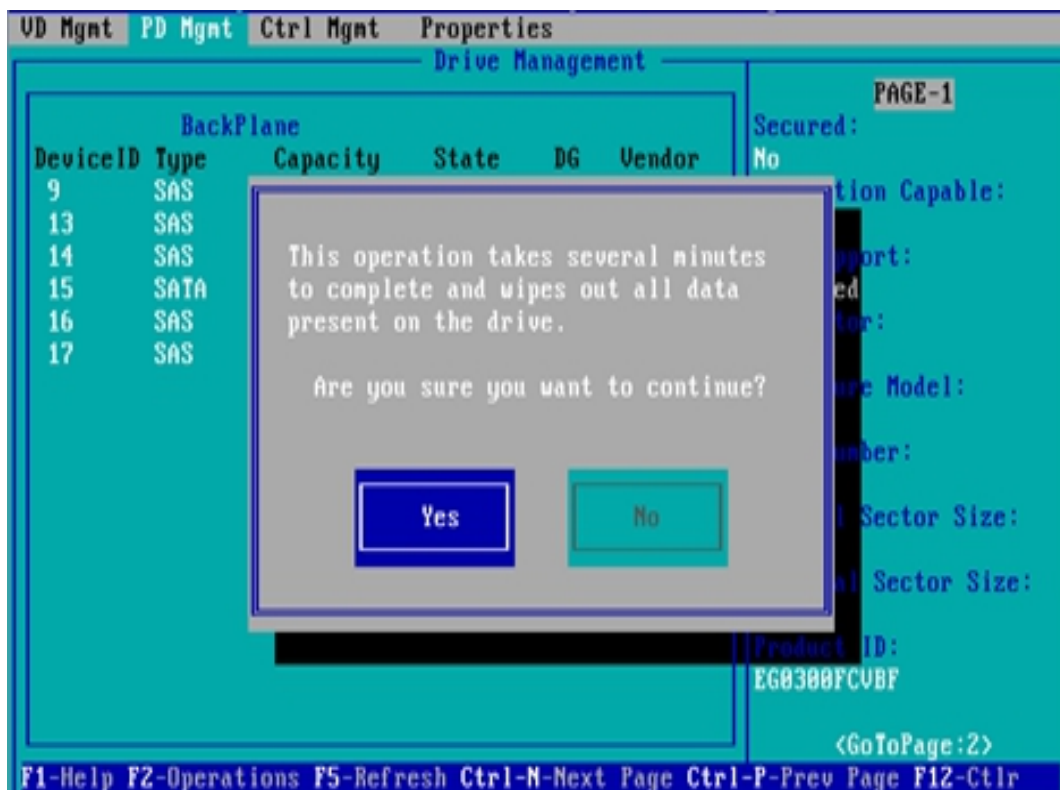

Figure 6-128
c) Enter the interface shown in figure 6-128, select Yes, and press enter to complete the operation of erasing the physical disk data.
✧ Figure 6-128 confirm erase